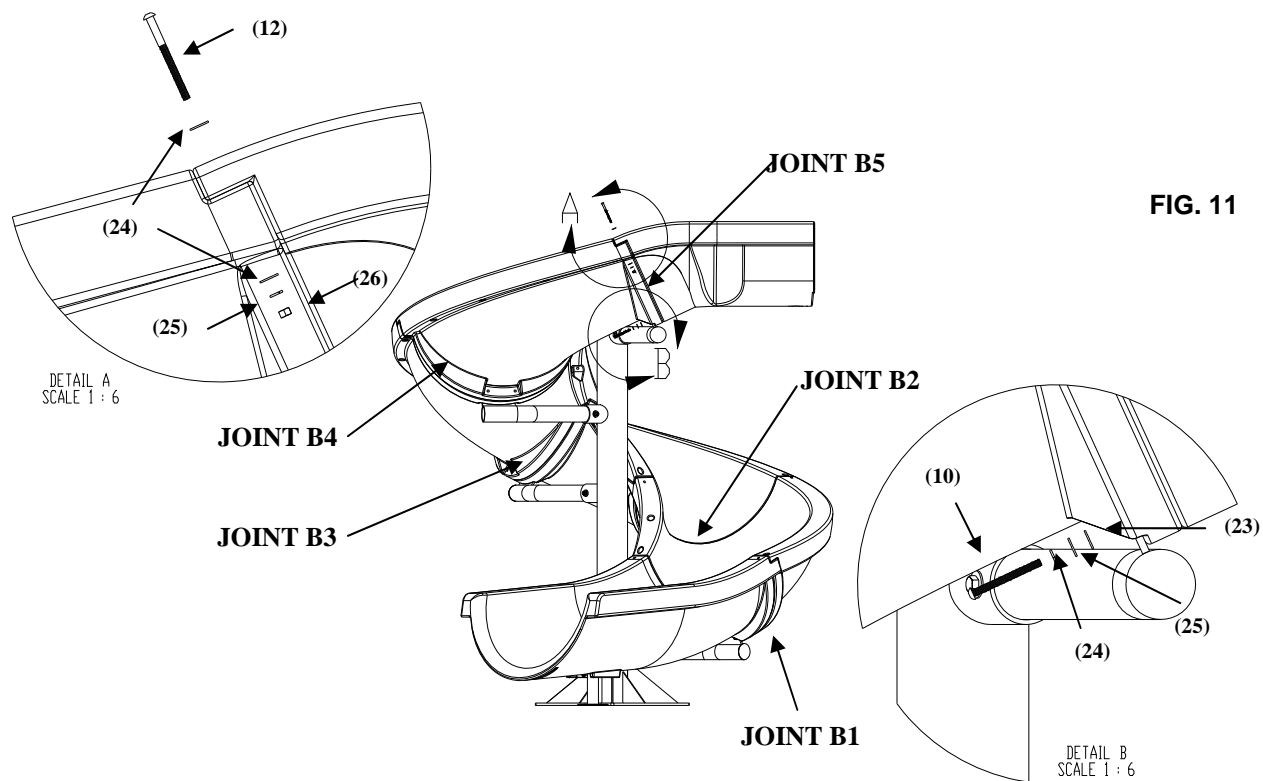

FIG. 11
8) Assemble the Entrance Section (1) of the slide to the last Runway Section (2).
First, insert the hardware through the sides of the runway as shown in Figure 11, Detail A. The hardware required for this step is as follows: 3/8"-16 x 5" Button Head Cap Screw S/S (12), 3/8" Flat Washer S/S (24), 3/8" Flat Washer S/S (24), 3/8" Lock Washer S/S (25), 3/8" Hex Nut S/S (26).
Next, attach the runway assembly to the last branch arm, as shown in Figure 11, Detail B. The bolts will be threaded into the threaded inserts in the entrance section. The hardware required includes: 3/8"-16 x 3.5" Button Head Cap Screw S/S (10), 3/8" Lock Washer S/S (24), 3/8" Flat Washer S/S (25), and a 3/8" Nylon Washer (23).